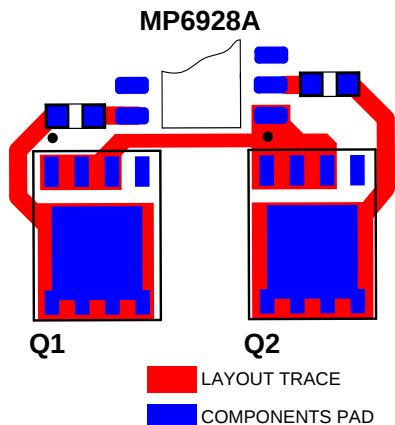

Figure 12: Layout Example for Sensing Loop and VDD Decoupling
Figure 12 shows a layout example of the MP6924A driving SOIC-8 package MOSFETs with two separate, small, sensing loops.
1. Place a minimum 1 μ F decoupling capacitor from VDD to PGND, and close to the IC for adequate filtering (see Figure 12).